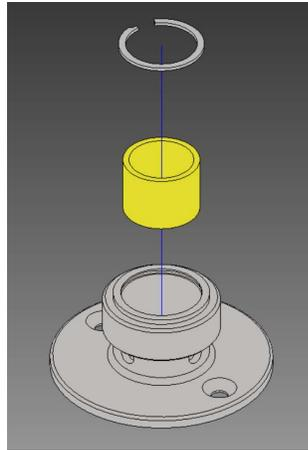

FIGURE F. 10. – INDICATOR REMOVAL
10. OPTIONAL – Remove the internal retaining ring and indicator (see Figure F.10.). This is typically not recommended for usual maintenance, unless for indicator replacement or as required by the user/operator.